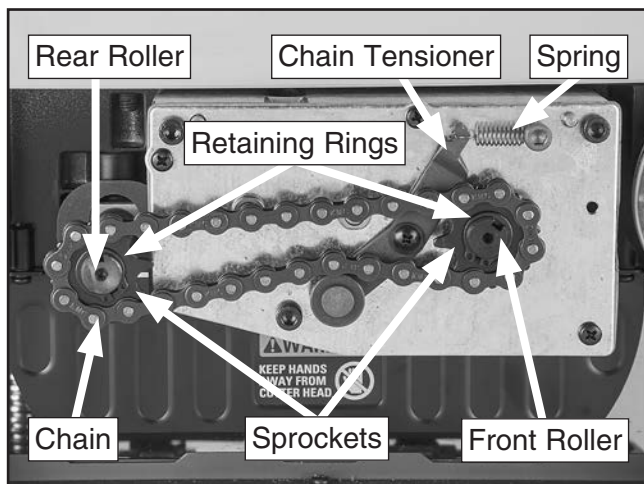

Figure 22. Gearbox area components.
26. Re-install sprockets and chain on front and rear rollers (see **Figure 22**).
27. Re-attach spring to chain tensioner. Verify tensioner is engaged with chain, as shown in **Figure 22**.
28. Re-install retaining rings on front and rear rollers (see **Figure 22**).